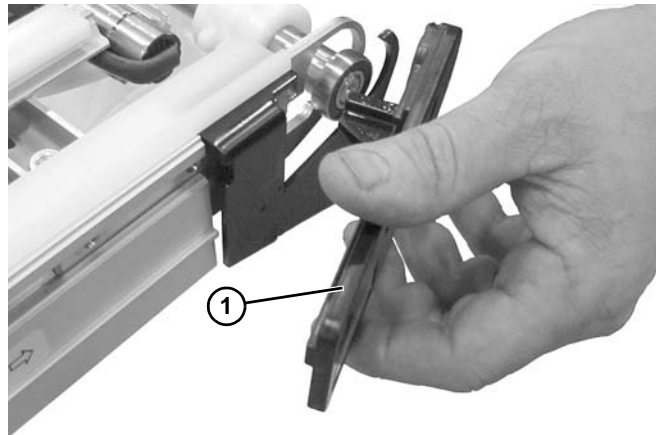

**Figure 66**
9. Remove three head plate fastening screws (**Figure 66, item 1**) from opposite side of conveyor.